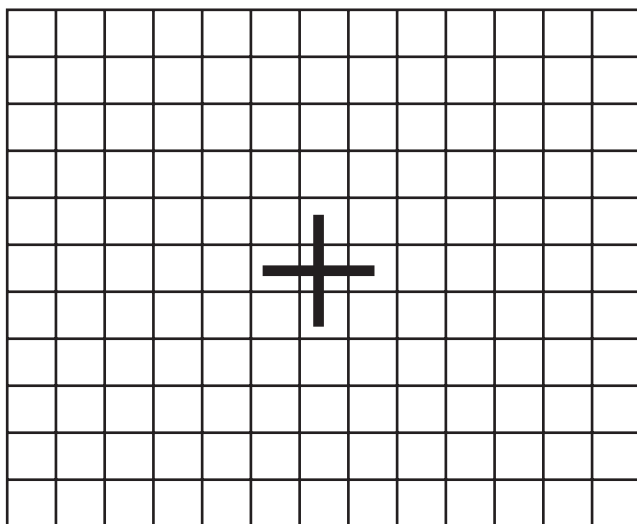

Figure 4.17 Positioning of crosshair on registration chart for shooting the second exposure.
- Release the pan and tilt of the head, and reposition the camera to line up the registration chart through the eyepiece so that the crosshairs of the ground glass are centered within one of the boxes of the chart (see Figure 4.17).